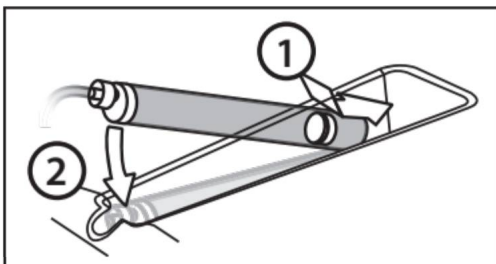

Figure 8. Loading Syringe
8. Load the filled Syringe into the Syringe cradle (Figure 8).